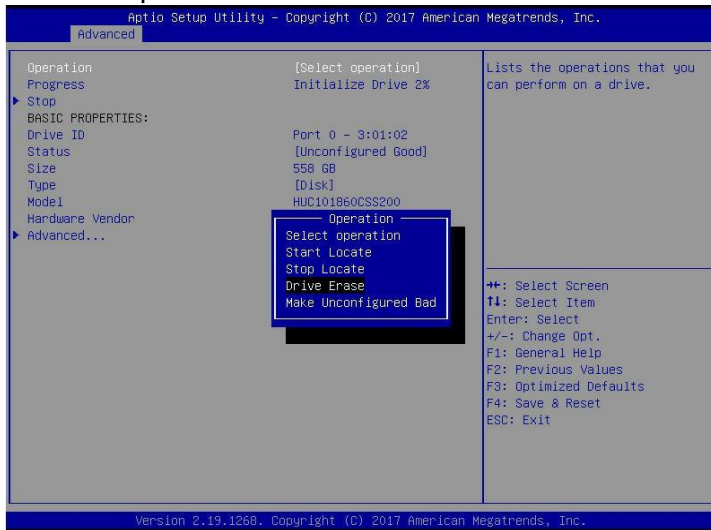

Figure 6-79
c) Enter the interface shown in Figure 6-79, select Operation, press Enter, then select Drive Erase in the pop-up dialog box, and press Enter.
✧ Figure 6-79 Operation interface